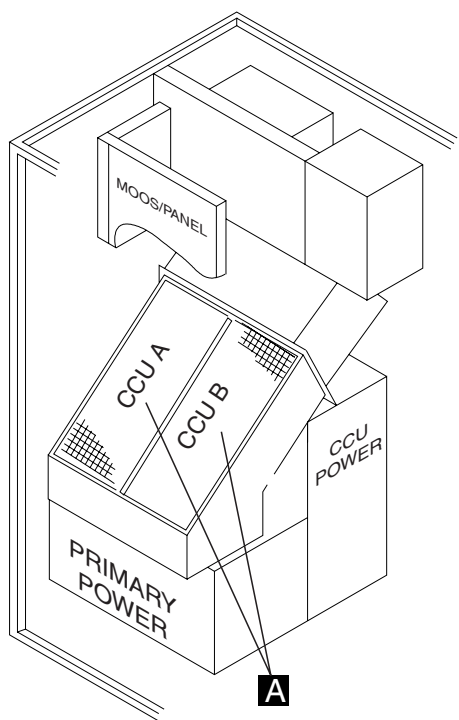
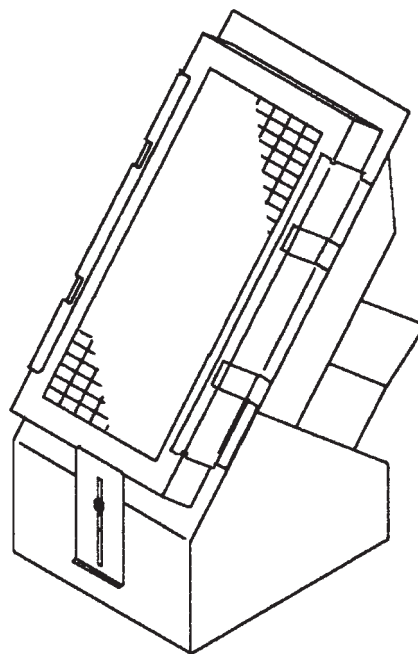

Figure 4-153. SAC air moving device Unit Location
Figure 4-154. SAC Air Moving Device
7. Refer to Figure 4-153 and to Figure 4-154 and remove the air moving devices as follows: